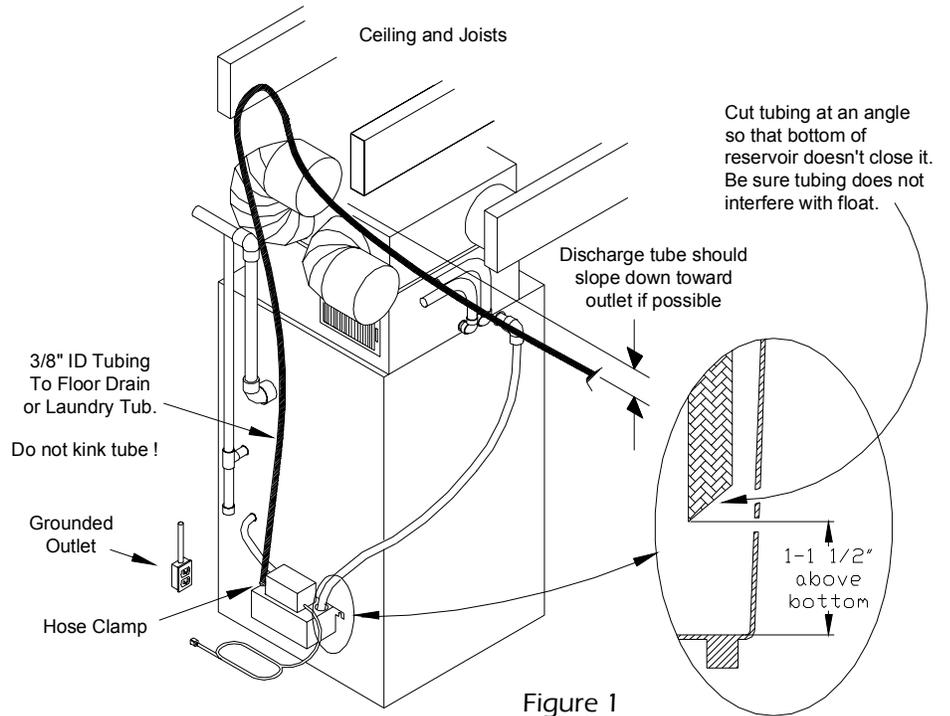

Figure 1
**PIPING**—Run flexible tubing or pipe from the evaporator and furnace to the pump. Insert the pipe into the drain inlet hole. Make sure the pipe does not interfere with the float. Cut an angle on the inlet pipe so that it doesn't close off against the bottom of the pump. See Figure 1 – exploded detail.
Connect 3/8" ID tubing to the barbed check valve. Extend this tubing straight up as high as necessary. (Do not extend this tubing past the head/GPH of the pump installed). Do not kink the tubing, as this will block the flow. From this high point, slope the discharge tubing downward to a point above the drain, then turn down and extend to a point below or level with the bottom of the condensate pump. If it is not possible to slope the discharge tubing downwards, make an inverted "U" trap directly above the pump at the highest point. (Figure 1)